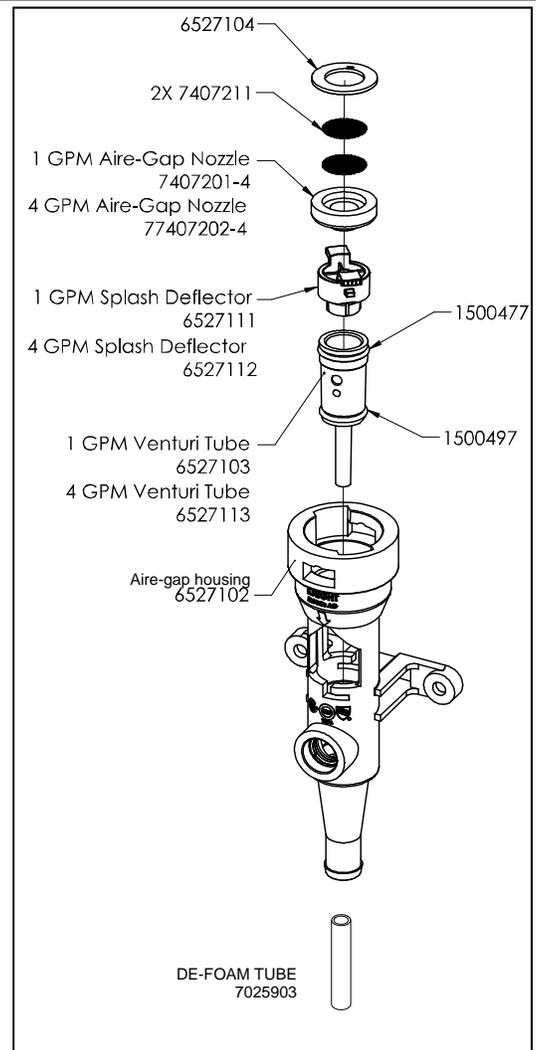

Figure 2 (Aire-Gap Assembly)
- (1) Remove the cover by gently snapping it away from the unit. Disconnect tubing from Aire-gap housing.
- (2) Twist and disconnect Aire-Gap housing counter-clockwise to remove fwater valve body
- (3) Remove existing nozzle, deflector plate, and venturi tube by disassembling the Aire-Gap assembly — **See Figure 2.**
- (4) Reassemble the Aire-Gap using new nozzle, splash deflector, and venturi tube (for the desired flow rate). To avoid leakage, install the rubber washer with the 3 “ears” facing upwards.
- (5) Put Aire-Gap assembly back in place in the order that they were removed
- (6) Twist and reconnect Aire-gap assembly back onto the water valve body